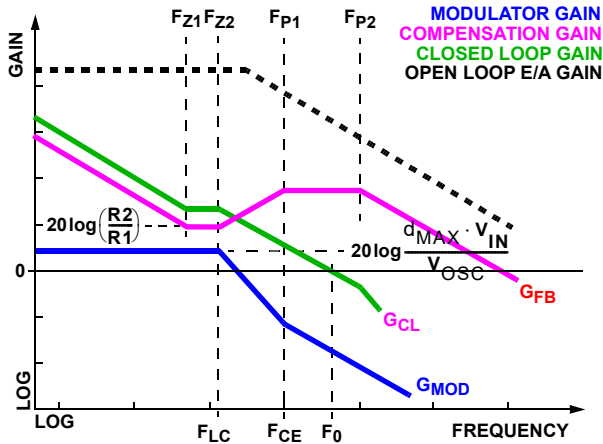

FIGURE 11. ASYMPTOTIC BODE PLOT OF CONVERTER GAIN
Figure 11 shows an asymptotic plot of the DC-DC converter's gain vs. frequency. The actual Modulator Gain has a high gain peak dependent on the quality factor (Q) of the output filter, which is not shown. Using the above guidelines should yield a compensation gain similar to the curve plotted. The open loop error amplifier gain bounds the compensation gain. Check the compensation gain at FP2 against the capabilities of the error amplifier. The closed loop gain, GCL, is constructed on the log-log graph of Figure 11 by adding the modulator gain, GMOD (in dB), to the feedback compensation gain, GFB (in dB). This is equivalent to multiplying the modulator transfer function and the compensation transfer function and then plotting the resulting gain.